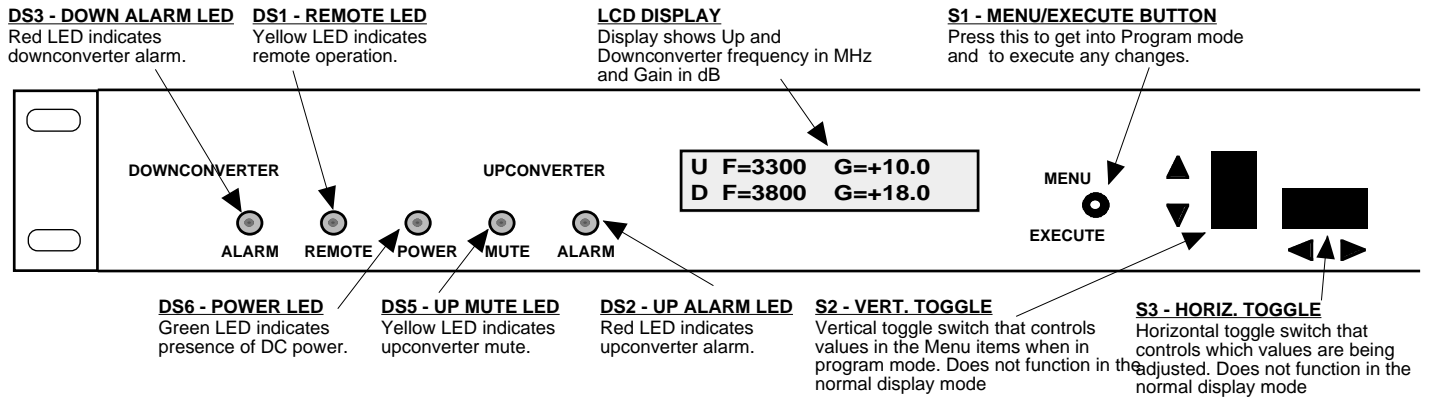

Figure 2.2 Model 2017-3338# Front Panel Controls and Indicators
- 5.) Be sure DS6 (green, DC Power) is on and DS2 (red, Alarm) is off (Figure 2.2).
- 5.) Be sure DS6 (green, DC Power) is on and DS3 (red, Alarm) is off (Figure 2.2).
2.5.1 Functions - This section describes operation of the front panel controls. There are three operator switches, the LCD display and alarm indicator LEDs. All functions for the equipment are controlled by these components. The functions are (see Figure 2.2):
Alarm indications appear on the LEDs (see figure 2.2).